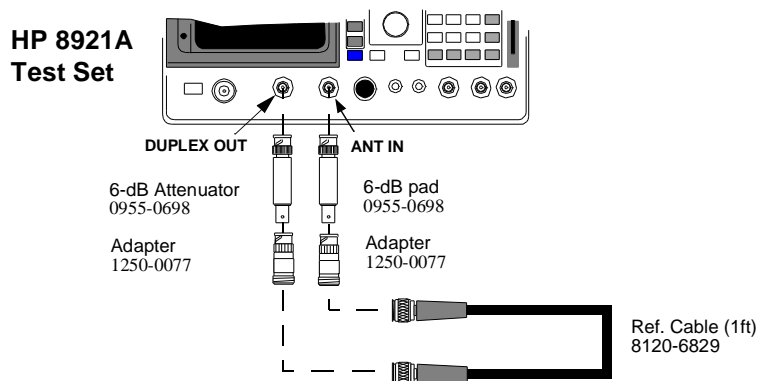

Figure 55
- 5 Make the connections shown in *figure 55, "RX Power Reference Diagram"*.